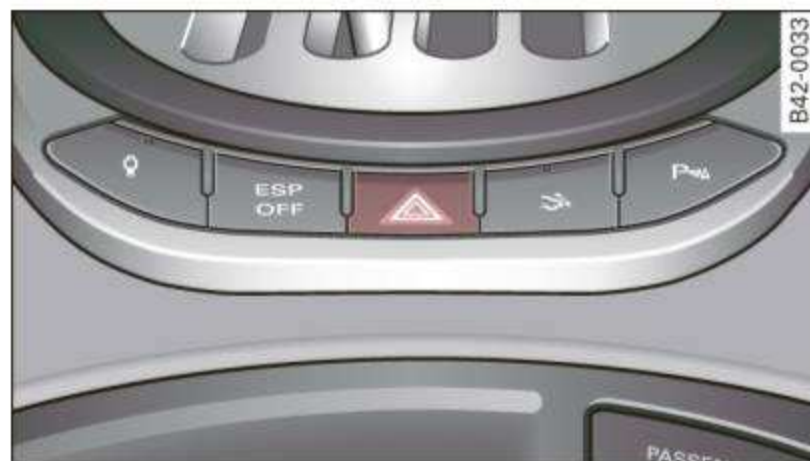

Fig. 46 Center console: emergency flasher switch
- Press the switch  ⇒ fig. 46 to switch the emergency flasher on or off.